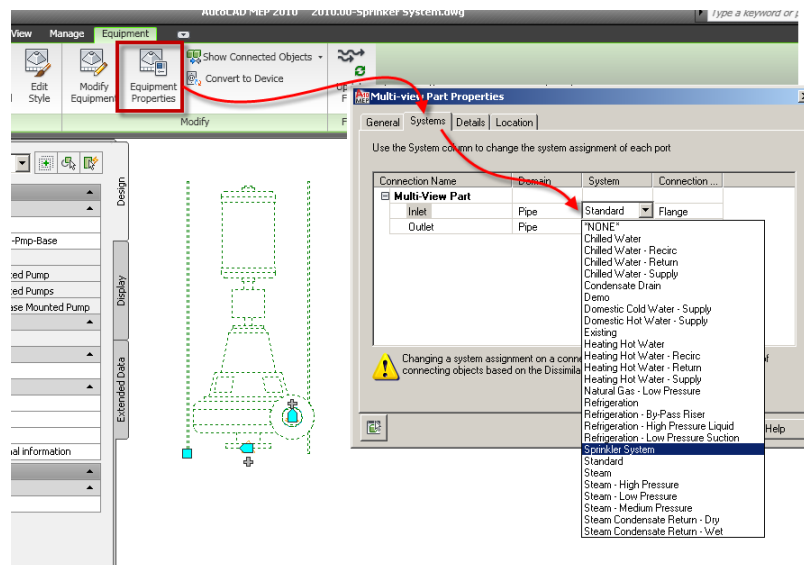

Figure 6.36
9. In the “Multi-view Part Properties” dialog, click the Systems tab, set the Inlet and Outlet Systems to **Sprinkler System**, and then click OK (see Figure 6.36).